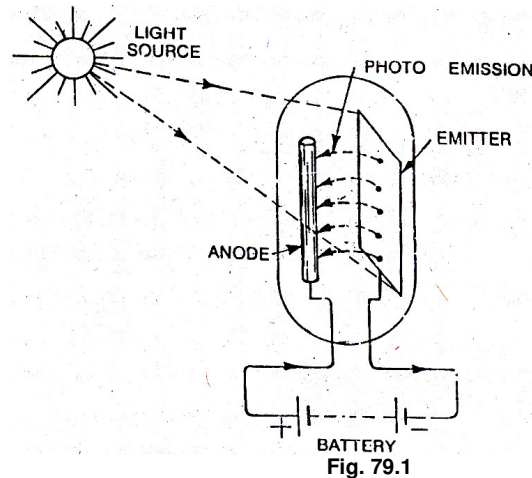

Fig. 79.1
**Operation:** Photoelectric emission is utilized in photo tubes as shown in below fig. 79.1 The emitter E and anode A are enclosed in an evacuated glass envelope. The anode is connected to the positive terminal of the battery and emitter (cathode) is connected to the negative terminal. When light of suitable intensity and frequency supplied by the source S falls on the emitter, the photoemission starts from the emitter. These photoelectrons are attracted by the positive anode and constitute a current in the outer circuit. The current will exist in the circuit as long as suitable intensity and frequency of light falls on the emitter.